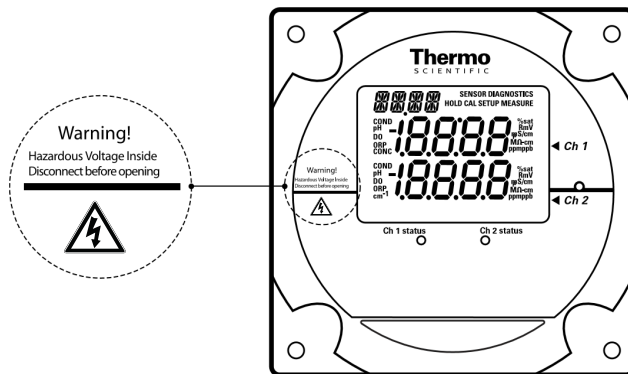

Figure 2: Faceplate
- Faceplate – Refer to Figure 2.